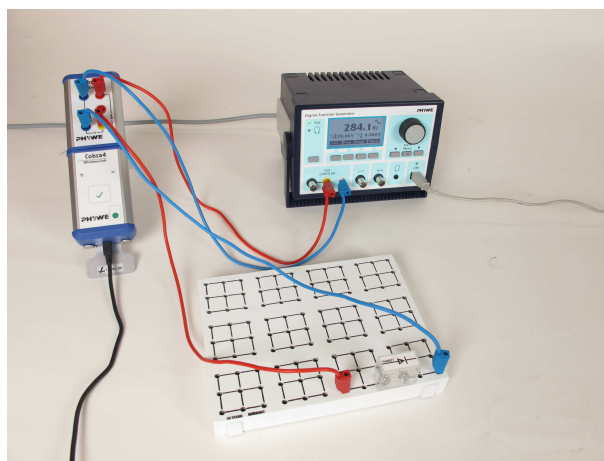

Fig.1:Experimental setup
- Connect the Wireless/USB-Link to your computer. Set up the equipment according to Fig. 1 and 2.